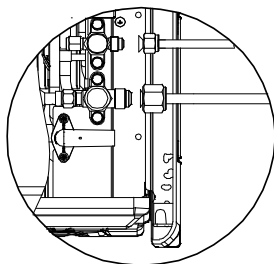

Fig. 13
- (1) Remove pipe cover and pipe plug.
- (2) Direct the flared part of copper pipe to the center of screwed joint. Twist on the flared nut tightly by hand, as in Fig. 13. (Make sure indoor pipe is correctly connected. Improper location of the center will prevent flared nut from being securely twisted. Thread of nut will get damaged if the flared nut is twisted forcibly).